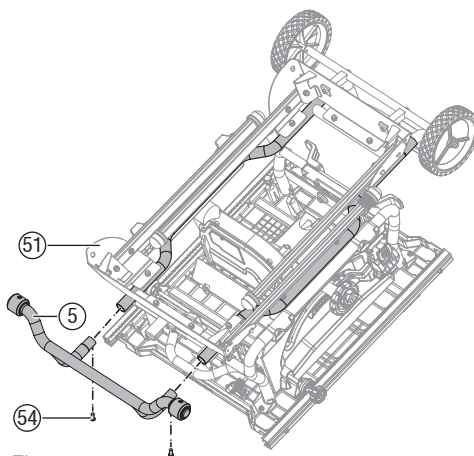

Fig. 1e
- Attach the tubes of the handle I assembly (5) with the corresponding tubes (located on side of blade guard storage) on the stand assembly (51) and align the holes. Insert the flat round head screws M8 x 10 (54) into the hole and tighten with 5 mm hex key. (Fig. 1e)